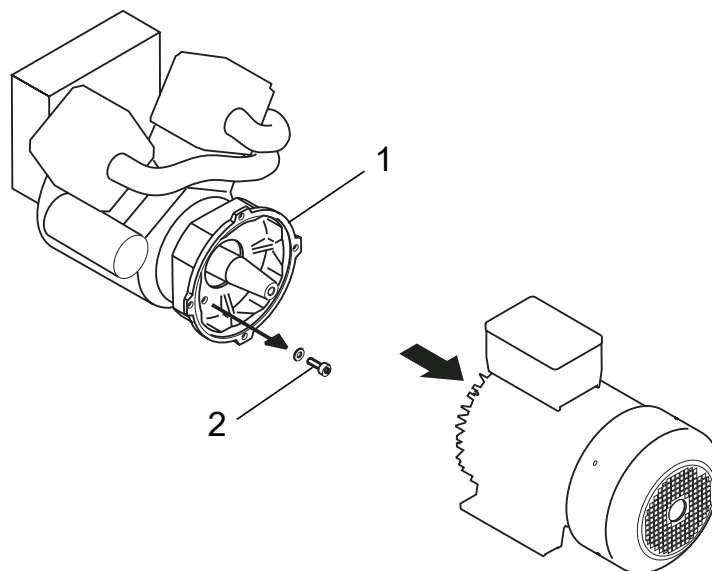

Fig. 39 Disassembly of brushless single-bearing generators with tension bolts (2)
- ⇒ Fig. 39, Disassembly of brushless single-bearing generators with tension bolts (2), page 112
- > Remove the generator front bearing plate [1] (Figure 39) that is attached to the drive motor.